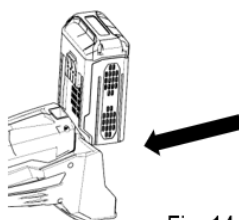

Fig.14
1. Insert the battery into the slots until you hear a "click" sound (Fig. 14).